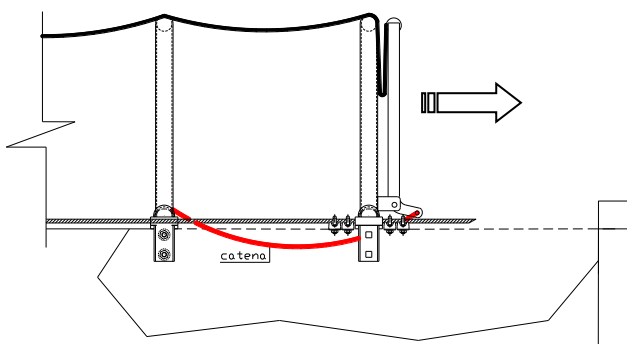

fig. 1
- Unfold the tarpaulin (manually or electrically depending on the version) and cover the tipper body (fig. 1).